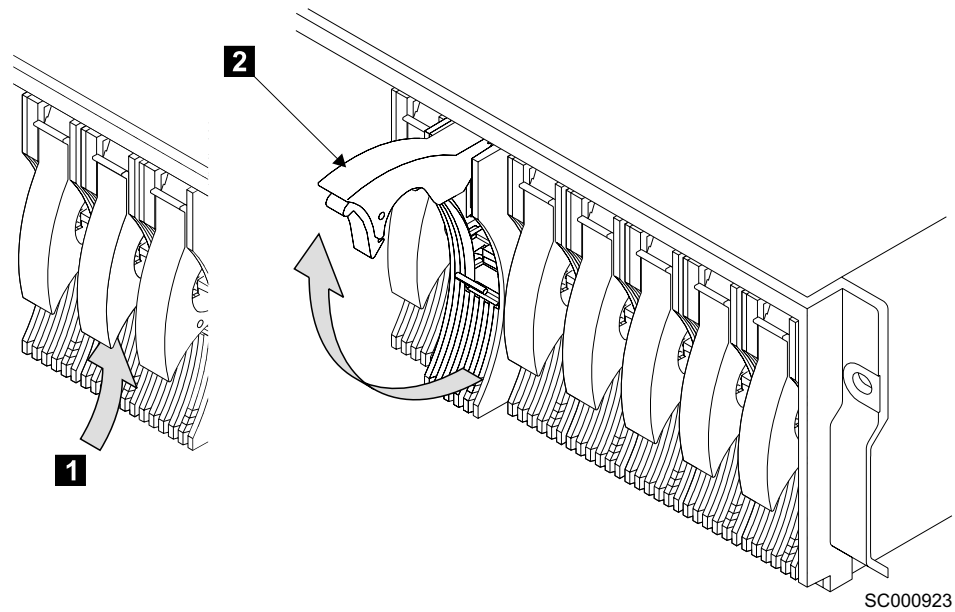

Figure 21. Opening the handle of a disk drive module
2. Press the blue latch **1**, and pull the handle **2** fully up. See Figure 21. This action pulls the disk drive module partially out of its slot.